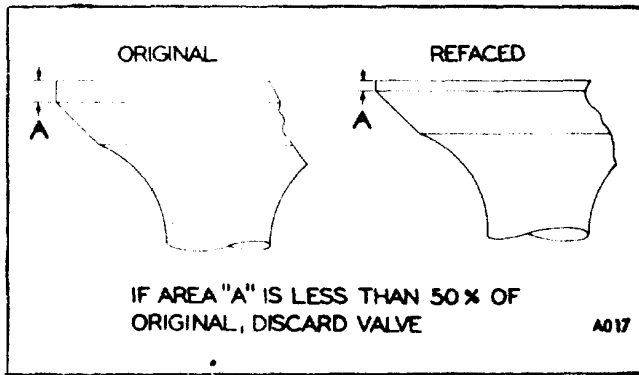

Figure 16.
2. All valves having less than 50% margin thickness (outer edge of valve head) after refacing has been completed, should be replaced. To check this dimension, compare the refaced valve with a new valve. (Fig. 16)